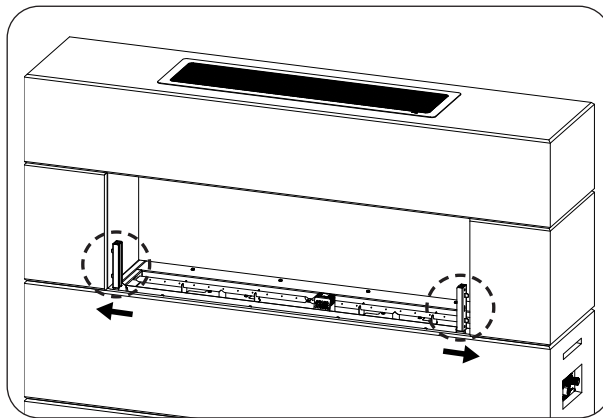
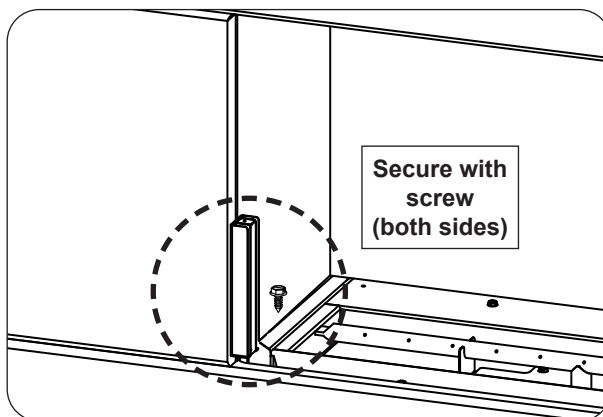

Fig. 32-1 Insert wind guard side brackets
Fig. 32-2 Secure brackets
1. Insert a side bracket, and secure it using a provided hex screw and a  $\frac{5}{16}$ " nut driver. See Fig. 32-1 and Fig. 32-2.